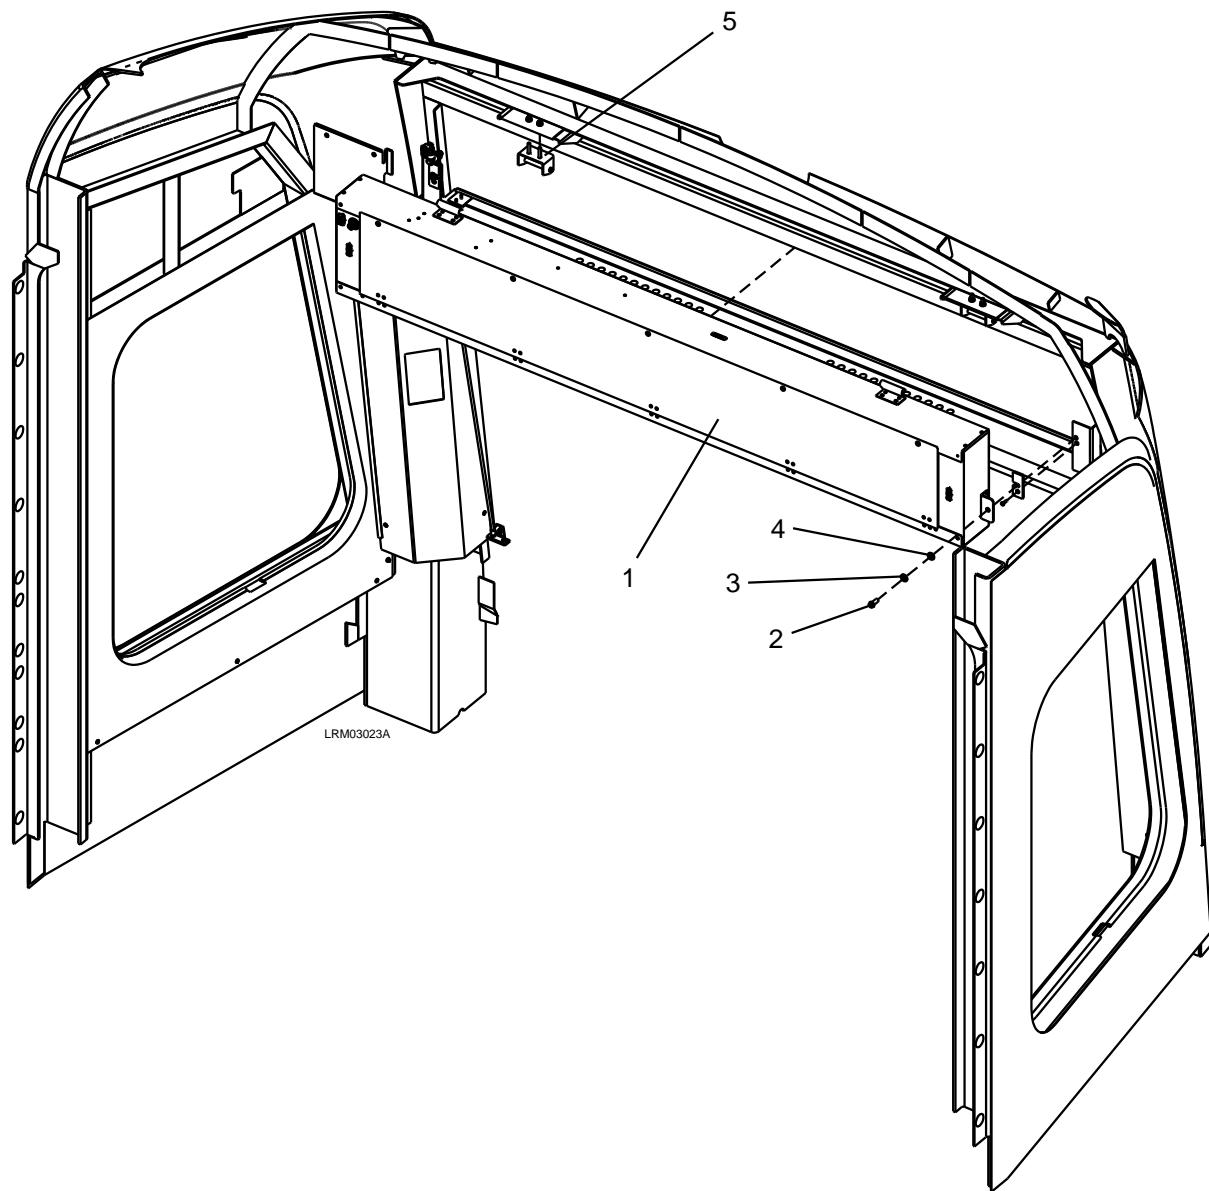

Figure 7-19: Front Destination Sign
1. Disconnect the electrical connectors from the Front Destination Sign (1). See Figure 7-19.